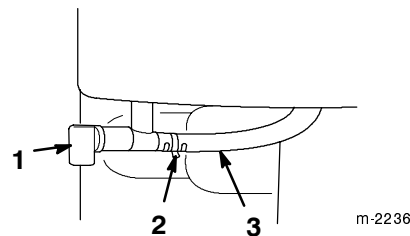

Figure 21
- **Fuel Shutoff Valve** (Fig. 21)—Close the valve by rotating it clockwise. Open the valve by rotating it counterclockwise. Close the valve when you do not use the snowthrower.
3. Open the fuel shutoff valve below the fuel tank (Fig. 21).
6. Close the fuel shutoff valve (Fig. 21).